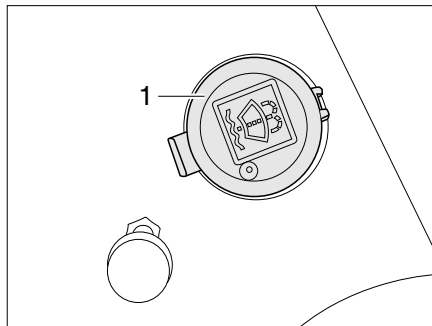

Fig. 35 Washer fluid container filler neck
- Remove the lid (Fig. 35,1) from the filler neck of the washer fluid container.